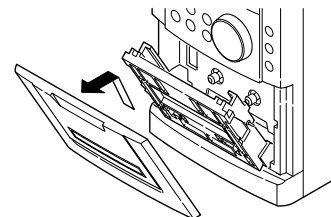

Fig.1
- Remove the cover deck as Fig.1.